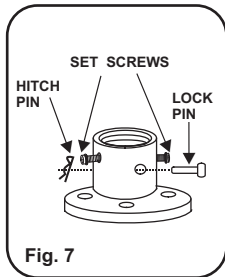

Fig. 7
Step 4. Loosen the two Set Screws and remove the Hitch Pin and Lock Pin from the coupling located on the top of the Motor Assembly. (Fig. 7)